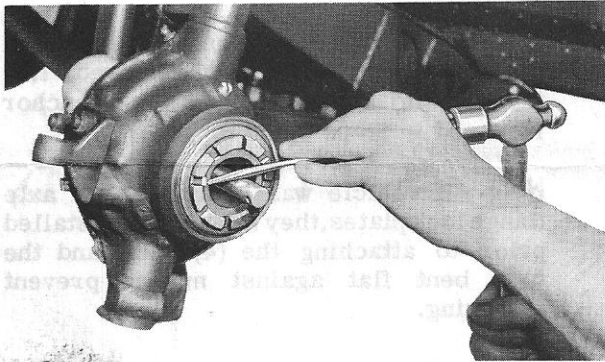

Figure 22.
28. Bend adjusting nut lock into adjusting nut slot (fig. 22).